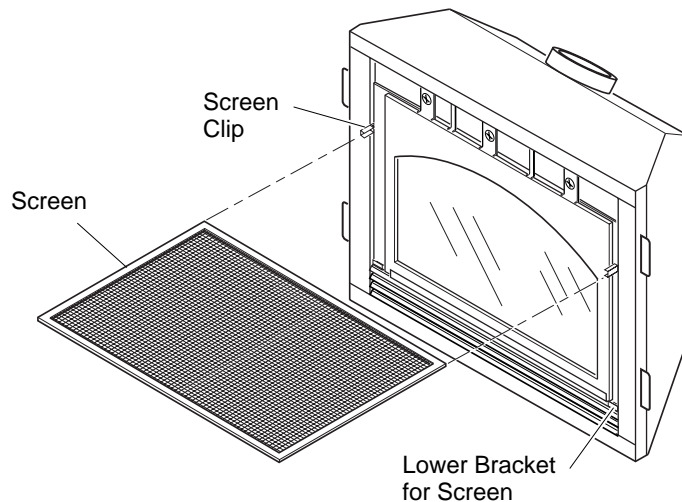

Figure 42 - Removing/Replacing Screen
2. Slide screen upward out of lower brackets. Rotate screen toward you so that screen clips rotate out away from firebox. Slide screen out of clips. See Figure 42.